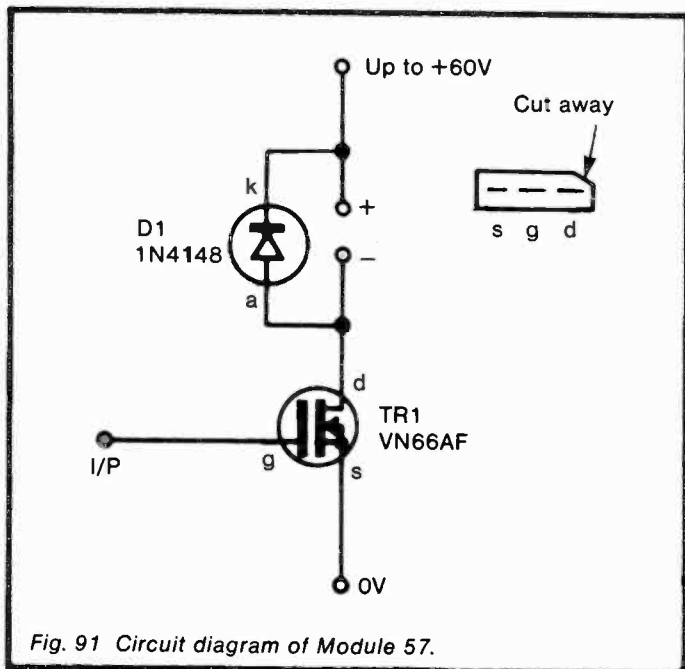

Fig. 91 Circuit diagram of Module 57.
*Circuit diagram:* see Figure 91.